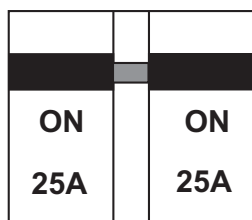

Figure 20. Main Circuit Breaker (ON)
- Place **main** circuit breaker (Figure 20) in the **ON** position.